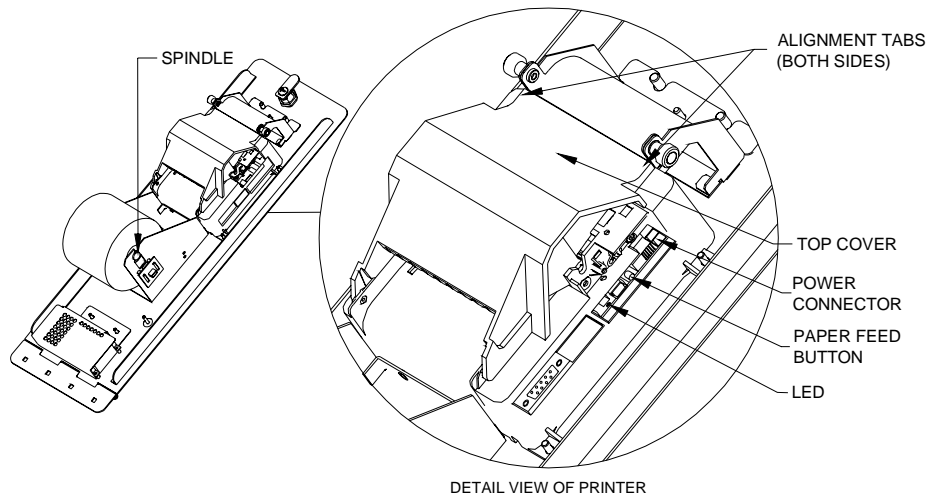

FIGURE 16 - PRINTER DOOR
3. Open the top cover of the printer by pulling under the alignment tabs on both sides (See Figure 16). You may need to unscrew the thumbscrews near the tabs and pull the bracket away from the top cover in order to open the cover.
6. Pull up on the bottom of the paper roll and align the paper properly before closing the cover. See Figure 16.
7. Feed the paper in between the paper guide brackets. See Figure 16.
8. Advance the paper by pressing the paper feed button and tear off the excess paper. See Figure 16.
To print a test ticket to check the print quality, unplug the power connector shown in Figure 16. Then, plug the connector back in while pressing and holding the Paper Feed Button for approximately 6 seconds. A test ticket will be printed approximately 5 seconds after. Press the paper feed button once more and the ticket will feed. Pressing the button again will result in blank tickets.